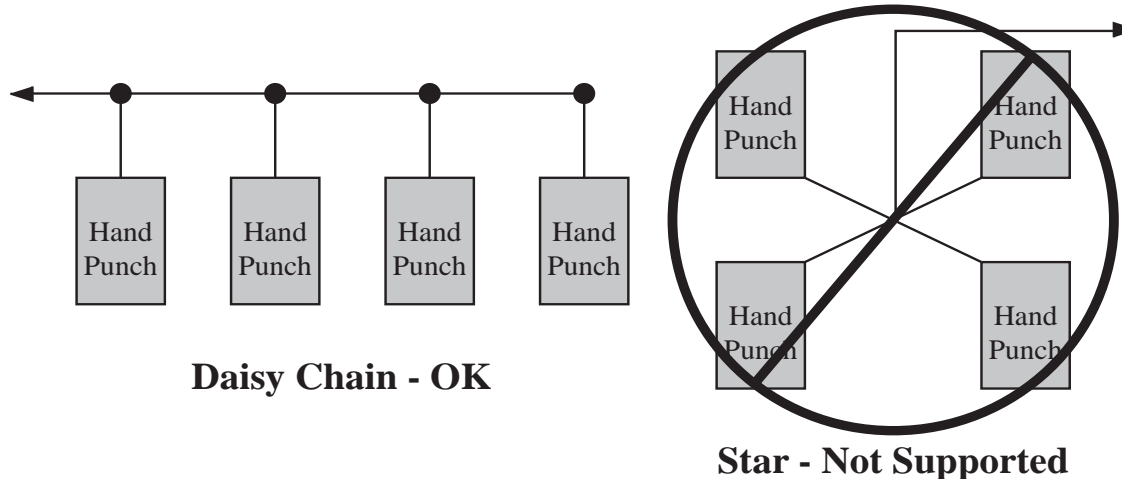

Figure 2-5: Daisy-Chain Versus Star Network Communication Connections
*When wiring the RS-422 daisy-chain network, do **not** wire HandPunch terminals in a “star” network (a network where a number of units are all connected to the network at one, central location – see Figure 2-5).*